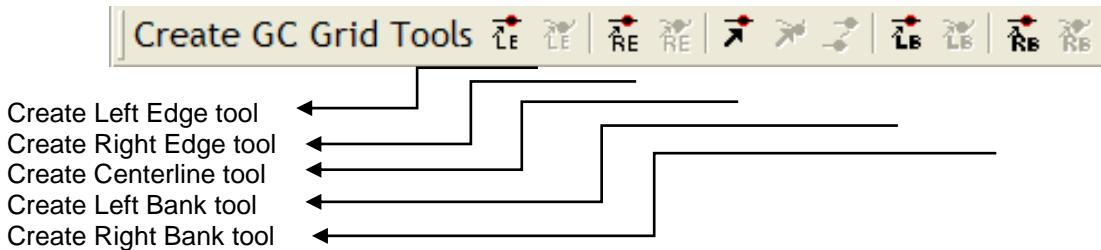

Figure 3.4.1.10 The Create GC Grid Tools. These tools are used to define the shape and extent of the general coordinate grid.
The following steps will illustrate how to create a general coordinate grid using the tools provided in iRIC. All the tools used will be from the Create GC Grid Tools toolbar (Figure 3.4.1.10). When the mouse is placed over any toolbar button, the status bar at the bottom of the iRIC interface contains information about that button. To access the Create GC Grid Tools make sure that the **Grid and Input Condition** and the **Create Gen. Coord Grid** branches in the Control bar are turned on.
- A. **Create Left Edge Line:** Create a left edge line from upstream to downstream, in this case from left to right. Left and right are defined relative to looking downstream. Select the Create Left Edge tool and use the left mouse button to define individual points creating a line that defines the left edge of the model domain, finishing the left edge line by selecting Enter. The resulting left edge line should look like that in Figure 3.4.1.11, beginning well upstream and ending well downstream of the measured topography. To zoom or pan the topography data during the polygon creation simply use the Dolly or TransX or TransY wheels at any time. Alternatively, using the Alt key with the left mouse button will zoom and Alt + Ctrl with the mouse button will pan.
- B. **Create Right Edge, Left Bank and Right Bank lines:** Repeat the process for creating the left edge line as above for the Right Edge, Left Bank, and Right Bank lines. Use Figure 3.4.1.11 to guide the placement of individual lines, or use the topography as a guide.
- E. **Edit Centerline Points:** Step D must be completed before you can edit any of the lines you created. You may notice that at either the upstream or downstream Boundary there are problems with the grid extending out of the bounds of the measured topography, as in Figure 3.4.1.12. Edit the centerline by first selecting with the mouse the **Gen. Coord. Centerline** branch in the Control Bar. This will paint the centerline red which indicates that it is in edit mode, and the Edit Centerline tool will be enabled. Using the Edit Centerline tool, select the centerline point with the left mouse button and holding the button down drag the point to a new location. Note that the refresh rate of the graphics may be slow when you drag the point to a new location. Keep holding the mouse button down and drag slowly to the new location. You will have to reselect the tool